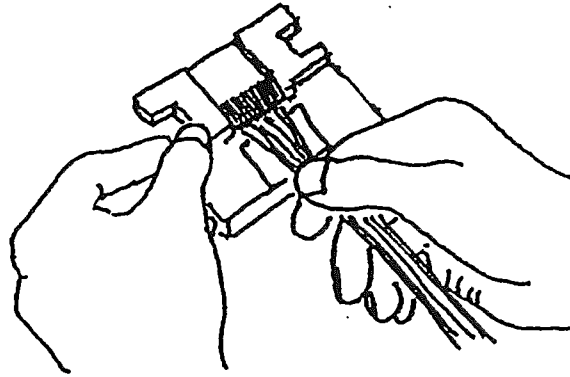

Fig.12
- ・ Set the support spring as FIG.12.